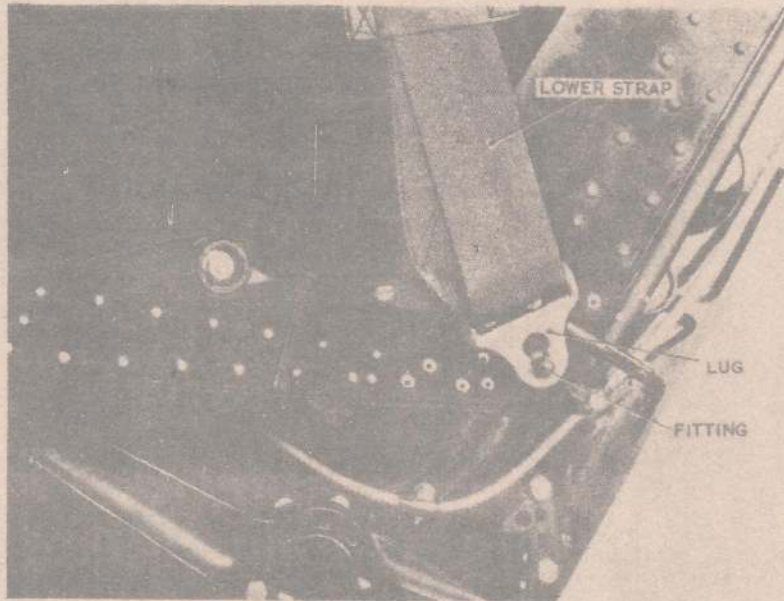

Fig. 2. Fitting the jacket (2)
(6) Attach the lower strap lugs (which have keyhole slots) to the fittings at the bottom rear of the seat pan (*fig. 2*).
(7) Attach the upper strap lugs (which have